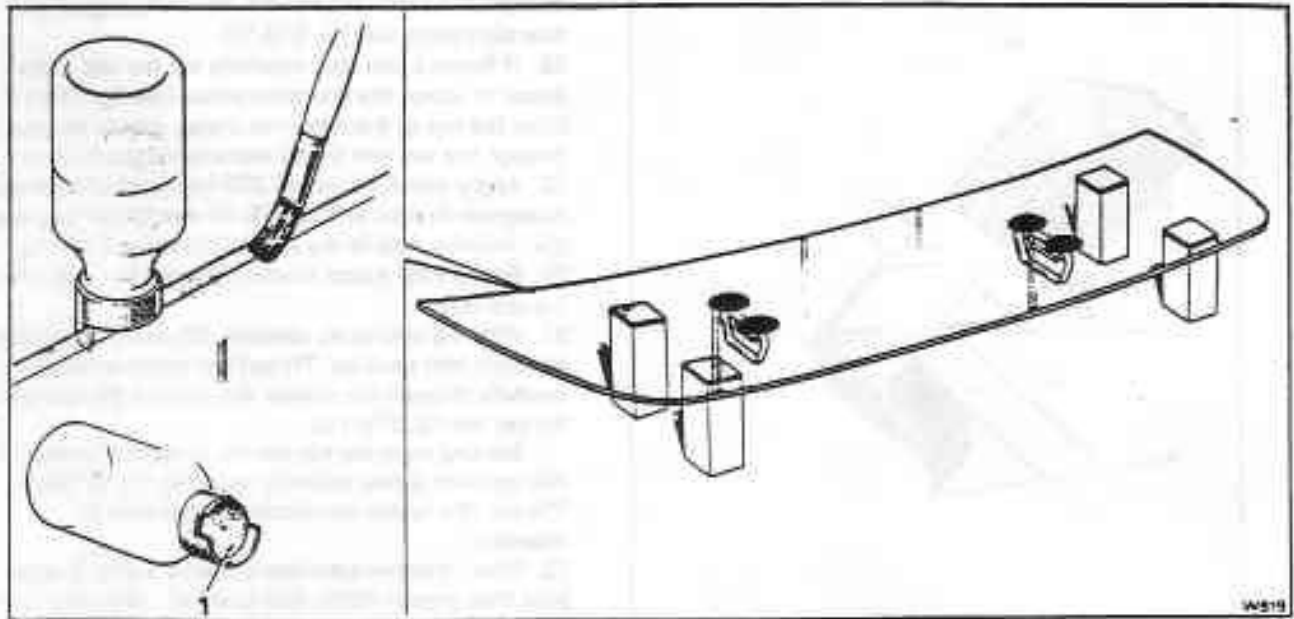

Fig. S10-8 Applying primer to the windscreen
cushion the outer surface from being damaged (see fig. S10-8).
8. Apply 3M Primer XC 5892 to the windscreen to a width of 7 mm (0.275 in) from the inside edge (see fig. S10-8). This should be applied with a bottle and felt pads and should be drawn carefully and steadily around the glass using a clean even line. Alternatively, the primer can be applied with the careful use of a brush.